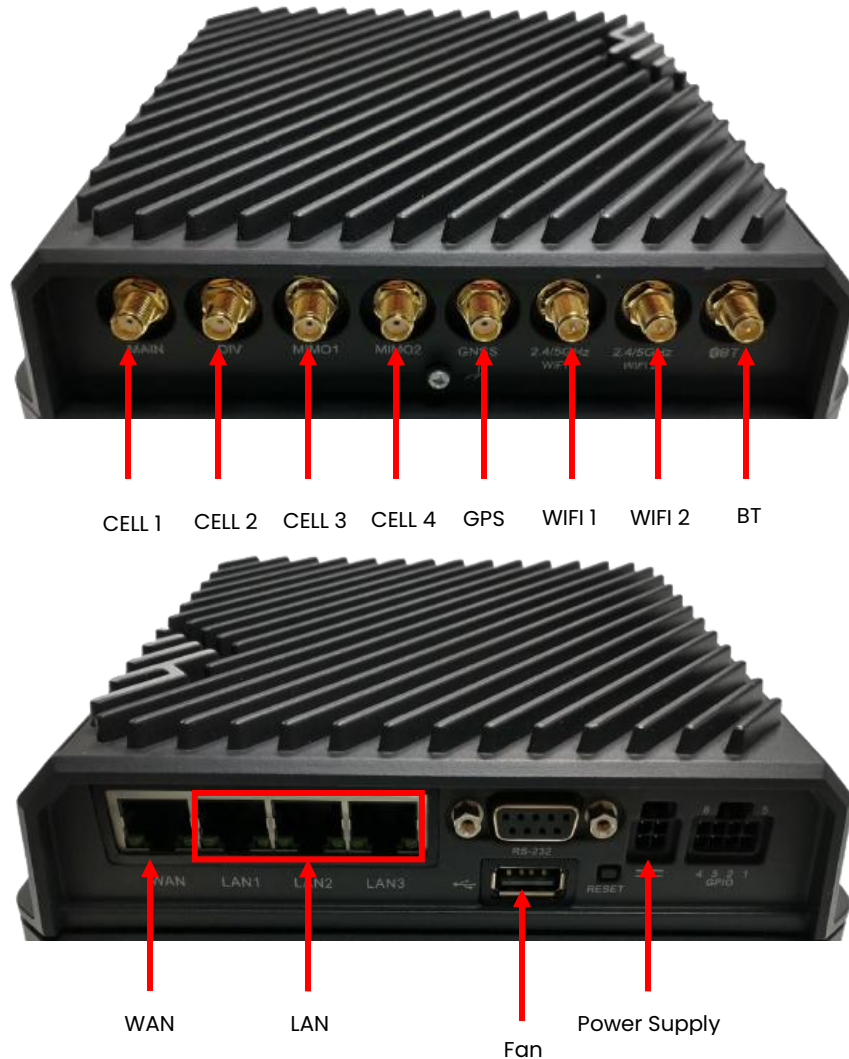

Figure 7: Cradlepoint R1900 Connections
- A. Plug the fan power cord into the USB-A port on the router, shown in Figure 7.
- A. Connect the provided ethernet cords to the LAN ports on the router, shown in Figure 7.
- C. Connect the provided ethernet cord to the WAN port on the router, shown in Figure 7.